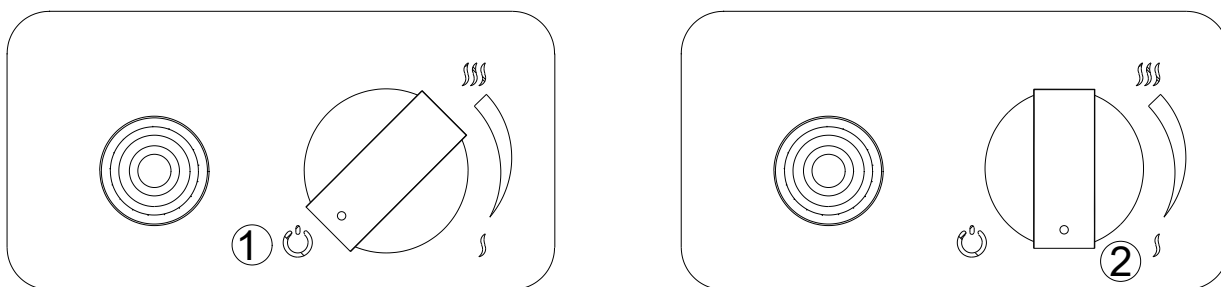

Fig 12 – Turning on the device
- To achieve a higher flame turn the knob counter-clockwise to “Hi” position. To achieve a lower flame turn the knob clockwise to “Lo” position (*Fig 12*).